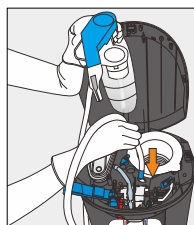

Figure 35
10. Insert water line of replacement SmartFlo™ Water Cartridge through the guide tube, and push through to bottle installation area (Figure 35)